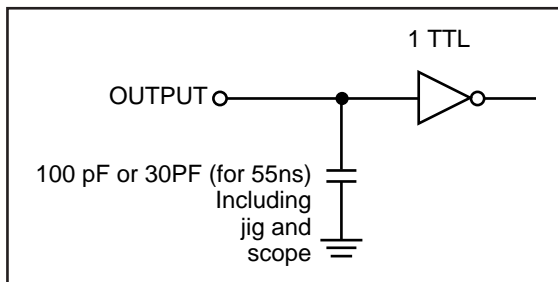

Figure 1
Output Load	See Figures 1
- Test conditions assume signal transition times of 5 ns or less, input pulse levels of 0.4V to 1.4V and output loading specified in Figure 1.
1. Test conditions assume signal transition times of 5 ns or less, input pulse levels of 0.4V to 1.4V and output loading specified in Figure 1.